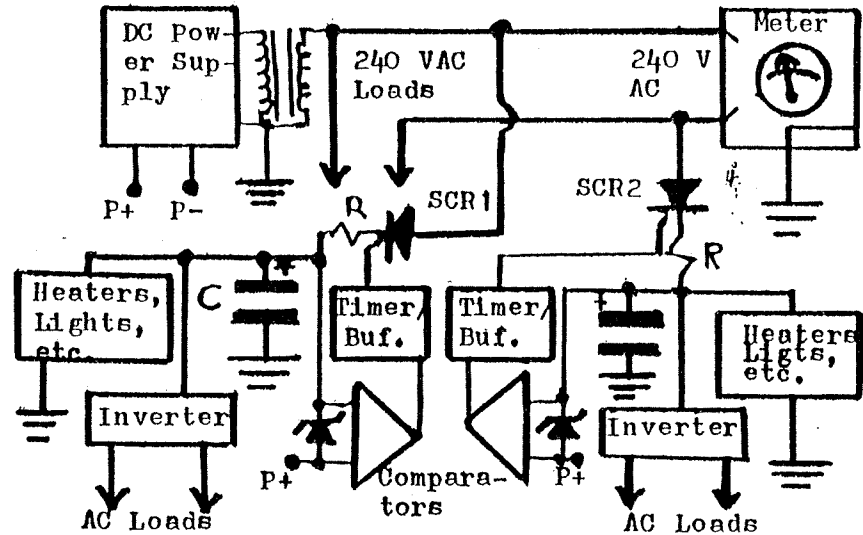

Fig. 7: Momentary Current Surge Method.
4) HIGH SURGE, LOW DURATION LOADS: Fig. 7 depicts several power switching circuits. The timers can be adjusted in combination with the zener diodes for load conditioning, either manually or automatically (more circuitry is required), to provide switching characteristics that will minimize the power meter reading while also minimizing load variations. This same effect is produced in spot welding operations and it is a fact that utilities tack on an extra use fee for spot welders simply because their watt-hour meters substantially underregister. This method requires the most knowledge, time and money to effect, and a goodly amount of time to maintain. Fig. 7 is a suggested circuit, others will work, circuit should be designed to best fit your needs. C=1000 uf, 400 PIV minimum. SCRs or Motor Starter Relays should have a minimum of 25 amp surge current rating. R=500 watt minimum heater elements or incandescent bulbs.